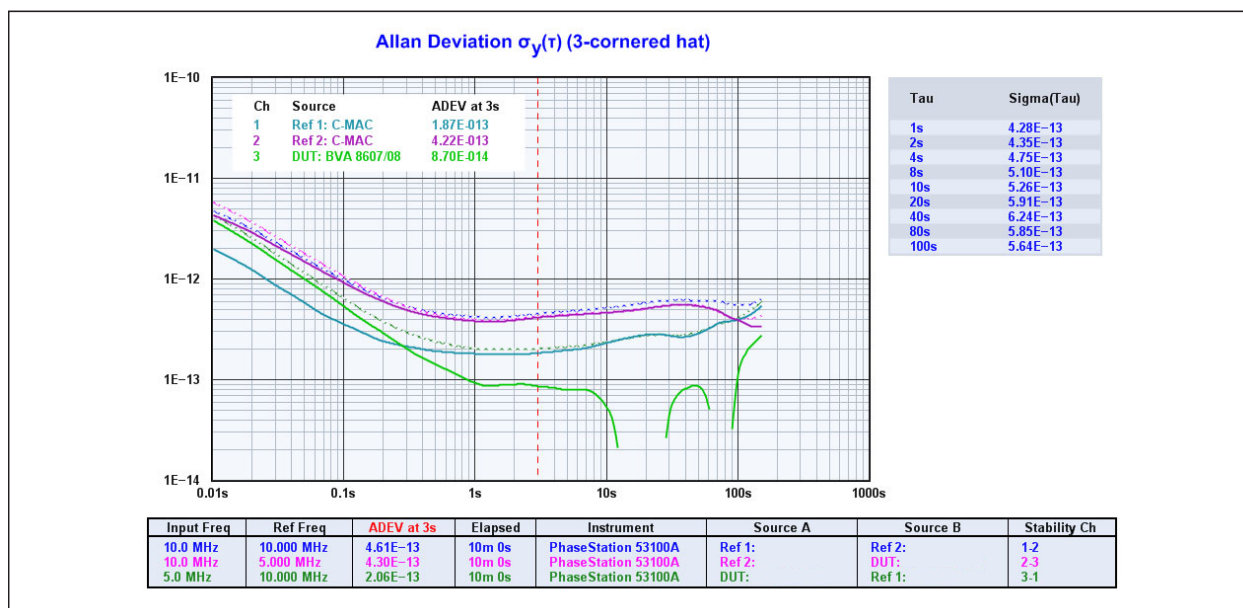

FIGURE 5: Separated xDEV Variances (N-Cornered Hat) Measurement View.
You can then toggle the three-cornered hat measurement view on and off by selecting *Trace>Show Separated xDEV Variances (N-Cornered Hat)* or by pressing <ctrl-h>. When the three-cornered hat view is enabled, the traces will be rendered using dashed lines. The solid traces that take their place will represent an estimate of the separate Allan deviation statistics for each individual channel, rather than the usual DUT-reference channel pairs. Figure 5 depicts the result obtained at the end of the 10-minute measurement conducted here.
- The broken traces visible in Figure 5 are the contributing ADEV traces that would be rendered with *Trace>Show Separated xDEV Variances (N-Cornered Hat)* <Ctrl-h> turned off. You can use *Trace>Toggle Trace Thickness for Current Measurement* <T> to make these traces less conspicuous in the three-cornered hat plot, or use *Trace>Show Original Traces in N-Cornered Hat Display* <F6> to toggle them on and off.
Looking back at Figure 5, the DUT's estimated Allan deviation at $t=3$ seconds is close to its specified value of $8\text{E-}14$. The observed estimate of $8.7\text{E-}14$ is within a reasonable margin of error for three-cornered hat traces in general, especially ones as short as these.